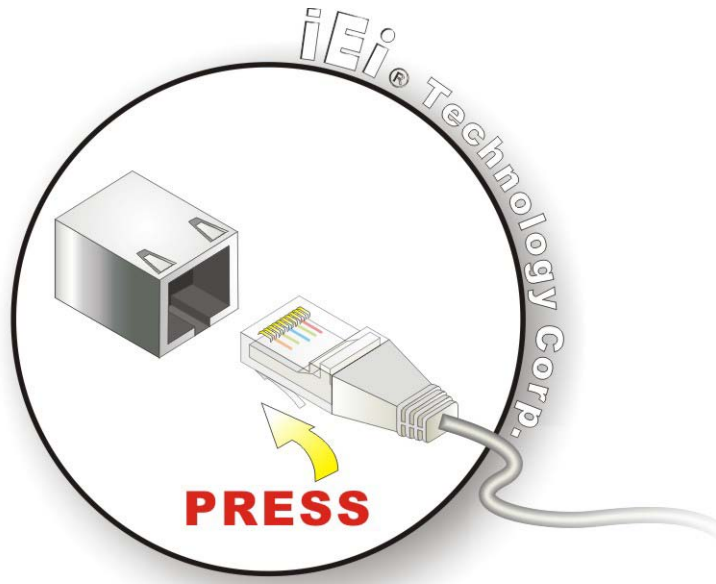

Figure 3-7: LAN Connection
Step 2: Align the connectors. Align the RJ-45 connector on the LAN cable with one of the RJ-45 connectors on the ECN-360A-D2550. See Figure 3-7.